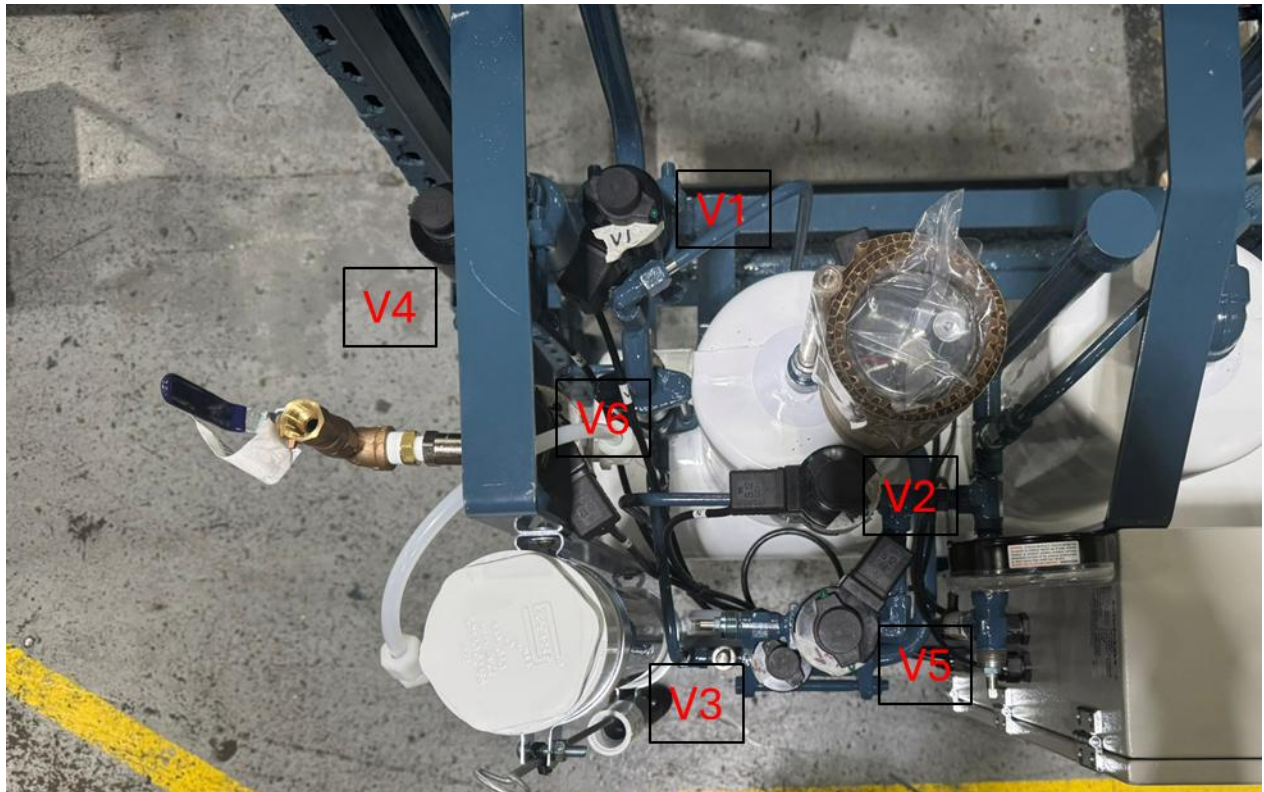

Figure 7. Purge Control Solenoid Locations
11. Once mounted, place the coils on the purger body according to Figure 7. Assemble pilot lights and knobs to the coils. The amber pilot light goes on coil V5. Connect DIN harnesses to coils according to Figure 7.